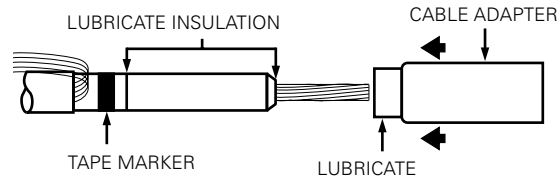

Figure 8. Line illustration of insulation cable adapter
- Slide small end of cable adapter over cable using twisting motion until small end is flush with tape marker. (Refer to Figure 8.)